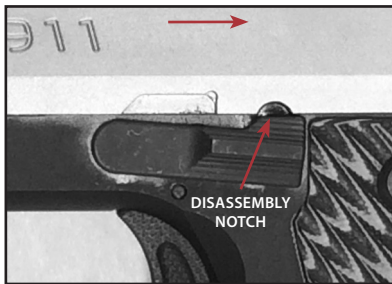

Figure 24-1
6. Manually retract the slide until the slide disassembly notch is aligned with the slide stop tab (See Figure 24-1) and remove slide stop.